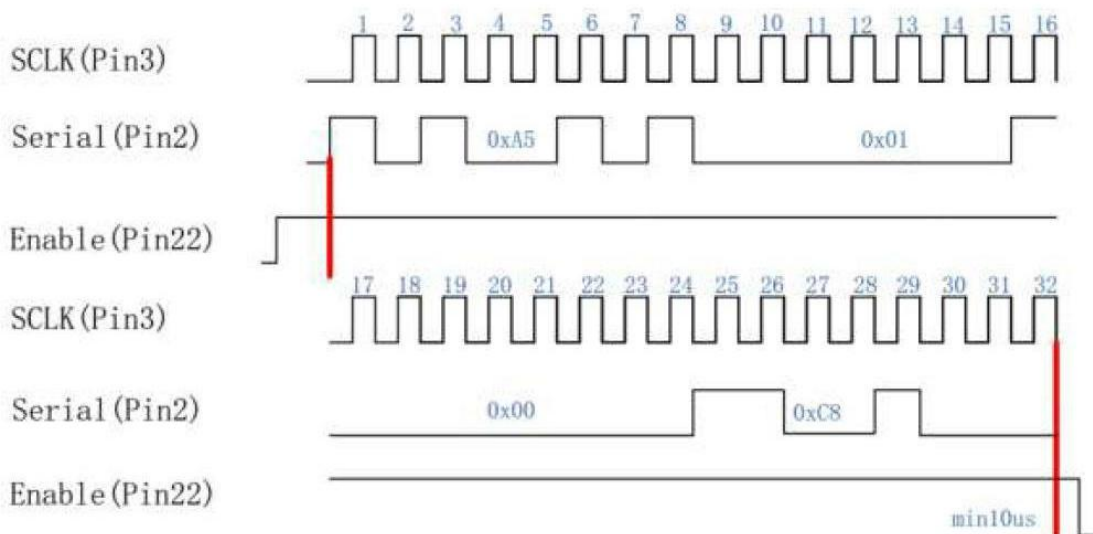

Figure 14. Schematic of laser pulse duration adjustment (200ns)
- 5) Pin22 is the Enable signal. The Enable should achieve high state at least 10us before Pin2 and Pin3 changing. The Enable should achieve low state at least 10us after Pin2 and Pin3 changing. Figure 14 shows the adjustment process of laser duration control.